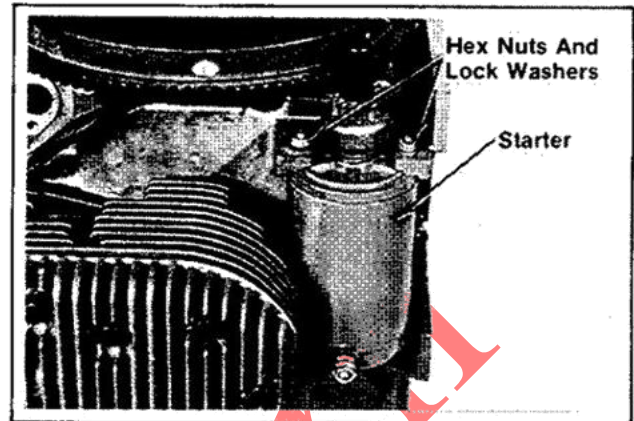

Figure 11-39. Installing Electric Starter.
1. Install the starter, split lock washers, and hex nuts. Refer to Figure 11-39.